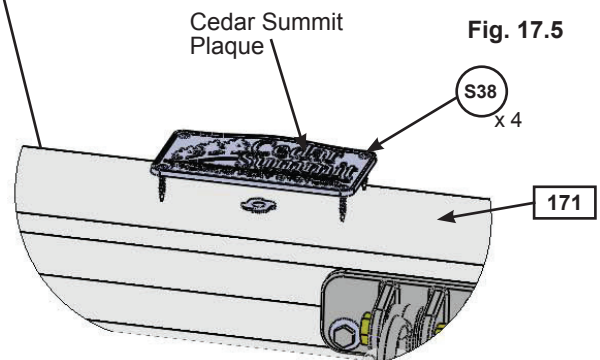

Fig. 17.5
D: Attach Cedar Summit by KidKraft Plaque to centre of (171) Engineered SW Beam (over top of t-nut) using 4 (S38) #7 x 1-1/8" Pan Screws. (fig. 17.5)